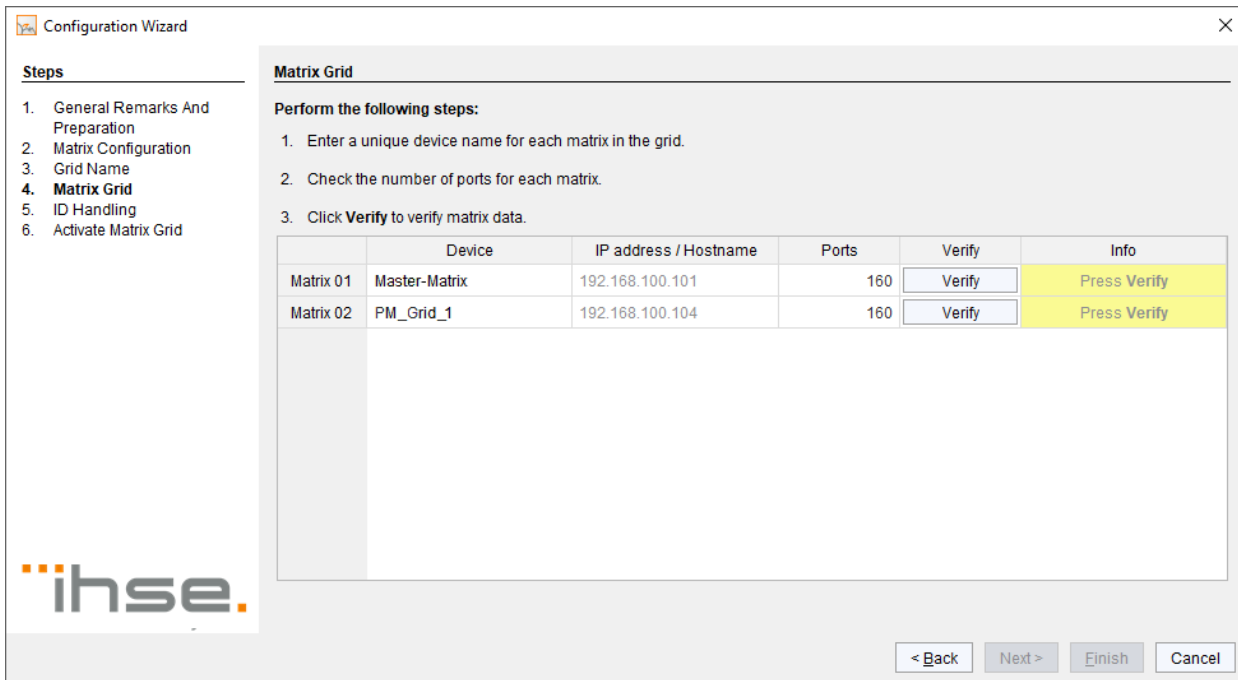

Fig. 145 Menu Matrix Grid - Configuration Wizard - Matrix Grid
5. In step 4 **Matrix Grid** (see Fig. 145 on page 160) you can change the name of a matrix. Bear in mind that the name must be unique.